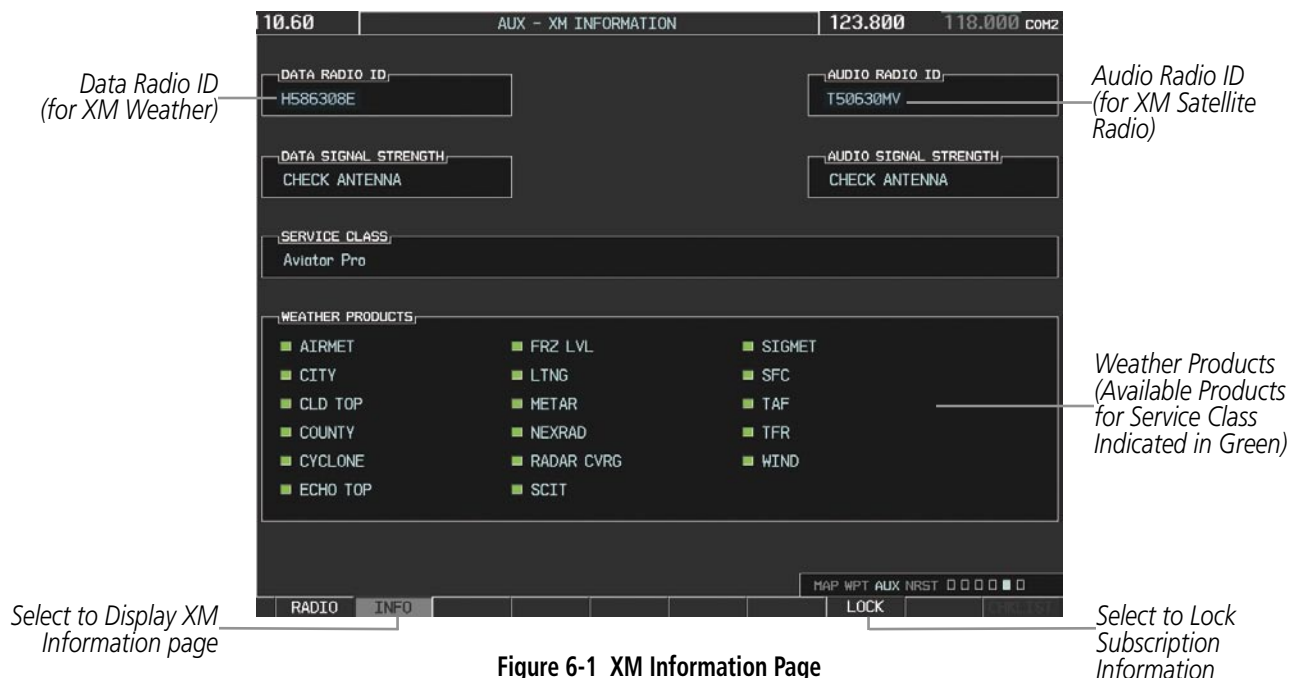

Figure 6-1 XM Information Page
- The XM Information Page on the MFD (Figure 6-1)